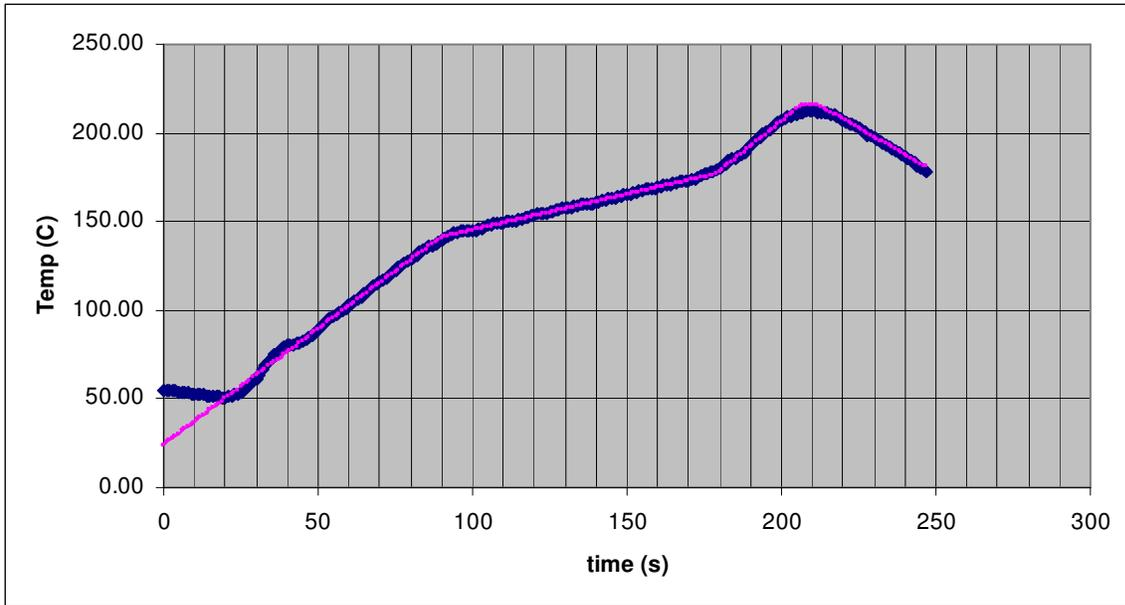

Figure 11 – Serial Output Excel Plot
9. Select Insert Chart and select the rows you want to display. You can now plot the performance of your oven. A plot showing both the Program (set) temperature in pink and the actual oven temperature from a typical toaster oven is shown in blue in Figure 11. Some oscillation is visible as the controller tries to deal with the delays in the heating/cooling of the oven coils.